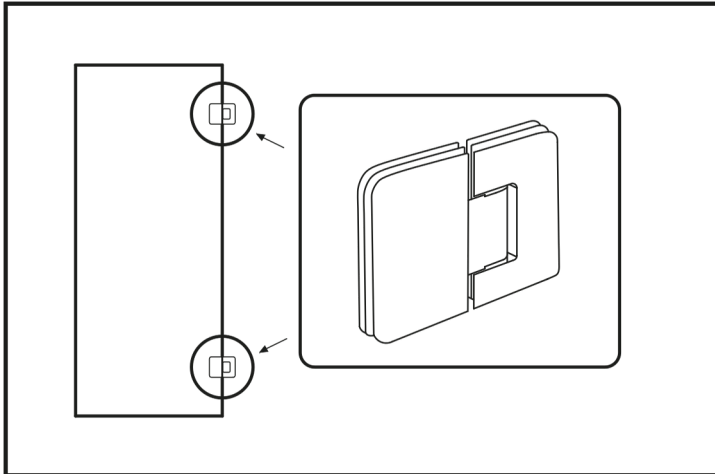

Figure 11
33. Attach the hinges to the door glass panels using the screws supplied in the kit. (Figure 11)